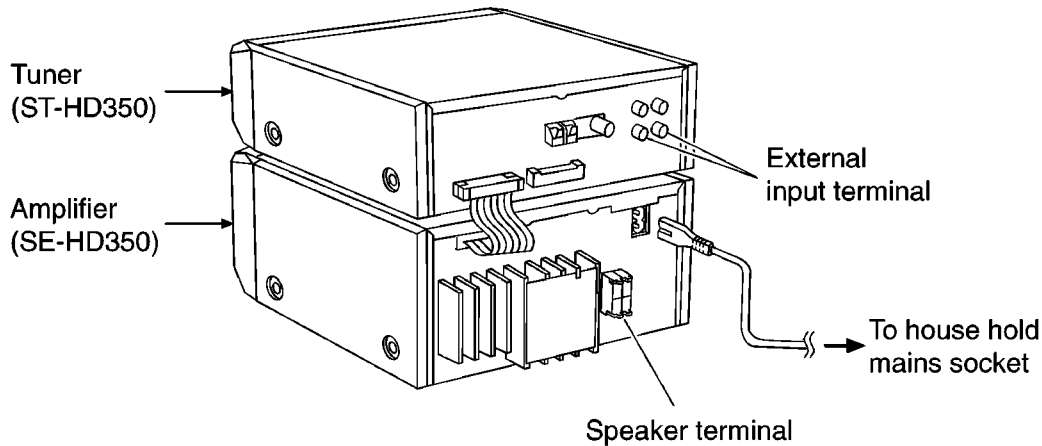

Fig. 7-1.
1. Connect with the Tuner (ST-HD350). Refer to Fig. 7-1.
2. Connect the AC power supply cord to the Amplifier (SE-HD350). Refer to Fig. 7-1.
3. Connect the speakers to speaker terminal. Refer to Fig. 7-1.